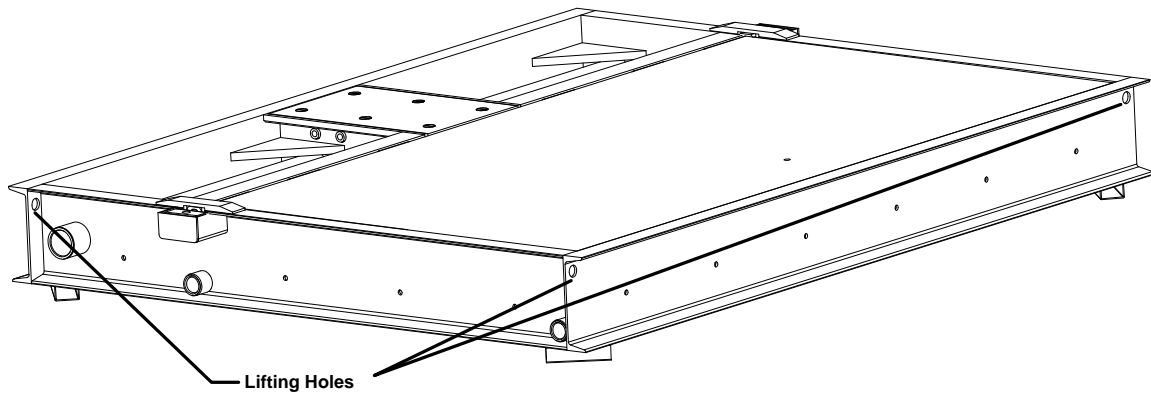

Figure 4 Barrier Lifting Holes
1. Position barrier using cinder blocks or similar product to ensure all four corners of the barrier are co-planer within 1/8". Shim if necessary. It is critical to the operational performance of the barrier that the base support frame is not twisted. Four lifting holes are supplied near the corners of the barrier for lifting and positioning use (see figure 4).